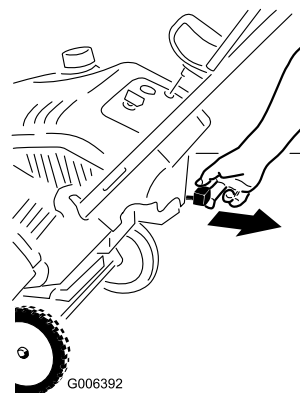
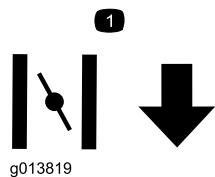

Figure 13
Figure 14
2. Pull out the choke lever (Figure 13 and Figure 14).